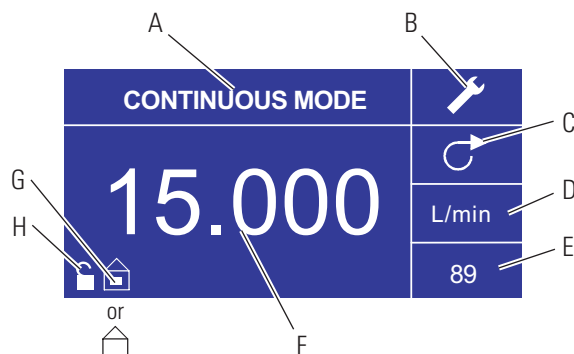

Figure 3-2. Continuous Mode Screen
- F. **Current Flow Rate:** The center digits show the flow rate of the drive in the unit of measure selected and shown to the right (see position D, Figure 3-2).